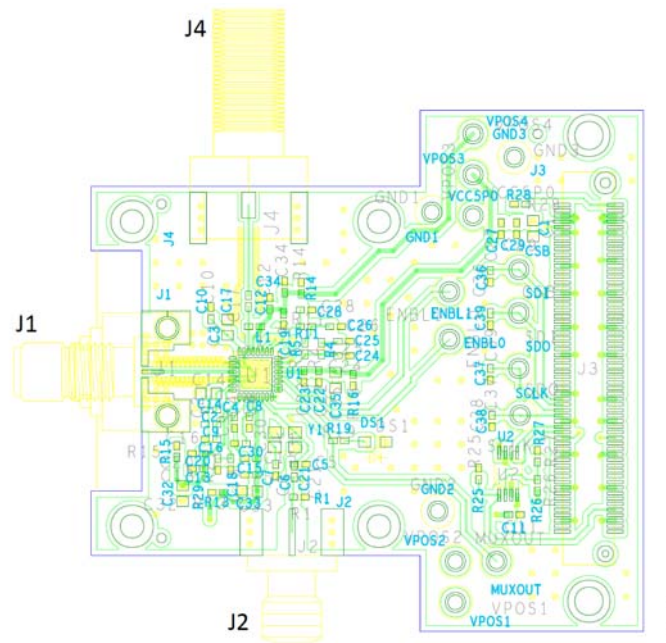
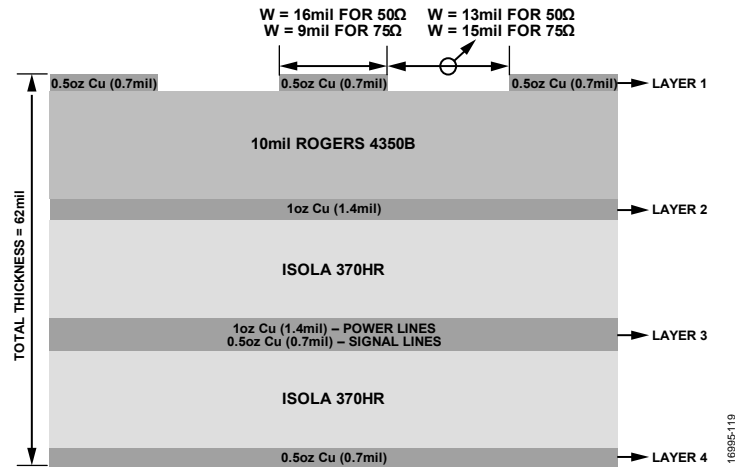

Figure 126. ADMV4420-EVALZ Evaluation Board Layout, Top View (Layer 1)
Figure 127. ADMV4420-EVALZ PCB, Cross Sectional View
The ADMV4420-EVALZ evaluation board can be used to evaluate the performance of the ADMV4420. The top and cross sectional layout views of the ADMV4420-EVALZ evaluation board are shown in Figure 126 and Figure 127, respectively. The RF transmission lines were designed using a coplanar waveguide (CPWG) model with a line width (W) of 16 mil and 13 mil of ground spacing for a characteristic impedance of 50Ω for the RF input (RFIN) and the external reference input (REF/XTAL1). The line width and ground spacing for the IF output (IFOUT) are 9 mil and 15 mil, respectively. The PCB is made with Rogers 4350B dielectric material, which offers low loss performance, and isola 370HR dielectric material, which achieves the required thickness of the PCB.
Figure 126 shows the ADMV4420-EVALZ evaluation board with component placement. The decoupling capacitors on the LDO decoupling pin and power supply traces to minimize noise effects. The schematic and Pb-free reflow solder profile of the evaluation board are shown in and Figure 2 and Figure 132, respectively.